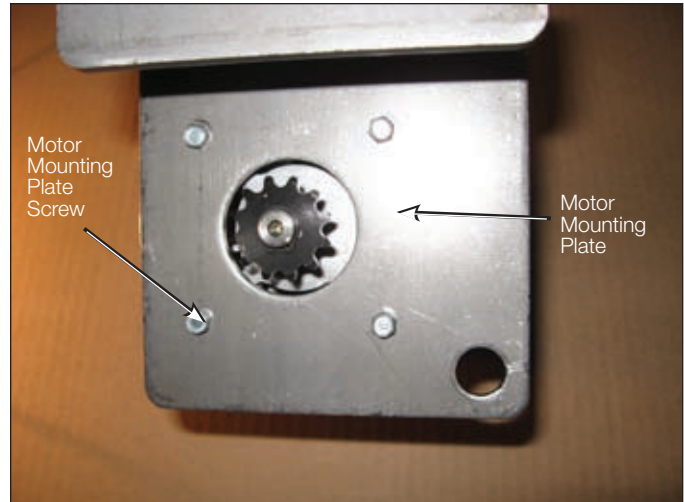

Figure 7.
7. Remove the four screws securing the motor to the motor mounting plate using a 1/4 inch socket on a ratchet. Remove the motor mounting plate from the old motor. Refer to Figure 7.